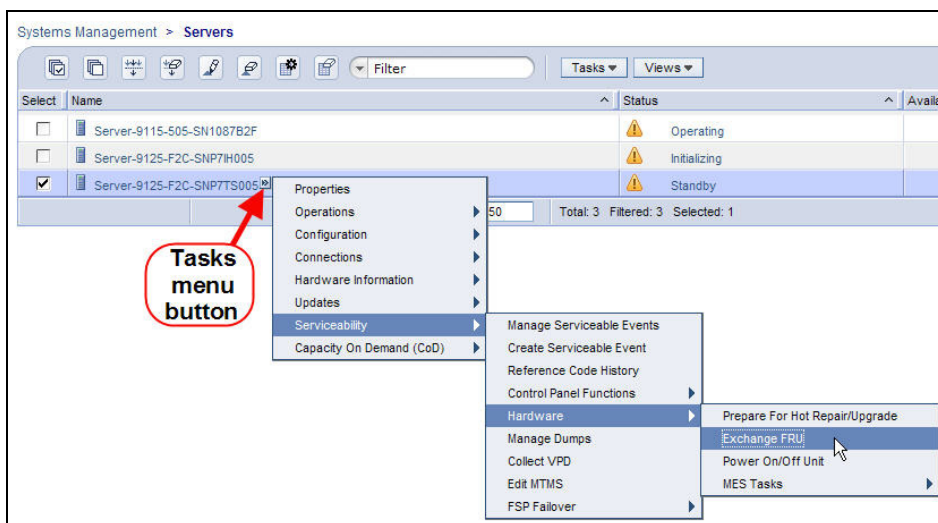

Figure 6 Exchange FRU Panel
- STEP 10 From the **Tasks** menu *select* **Serviceability -> Hardware -> Exchange FRU**. See Figure 6.